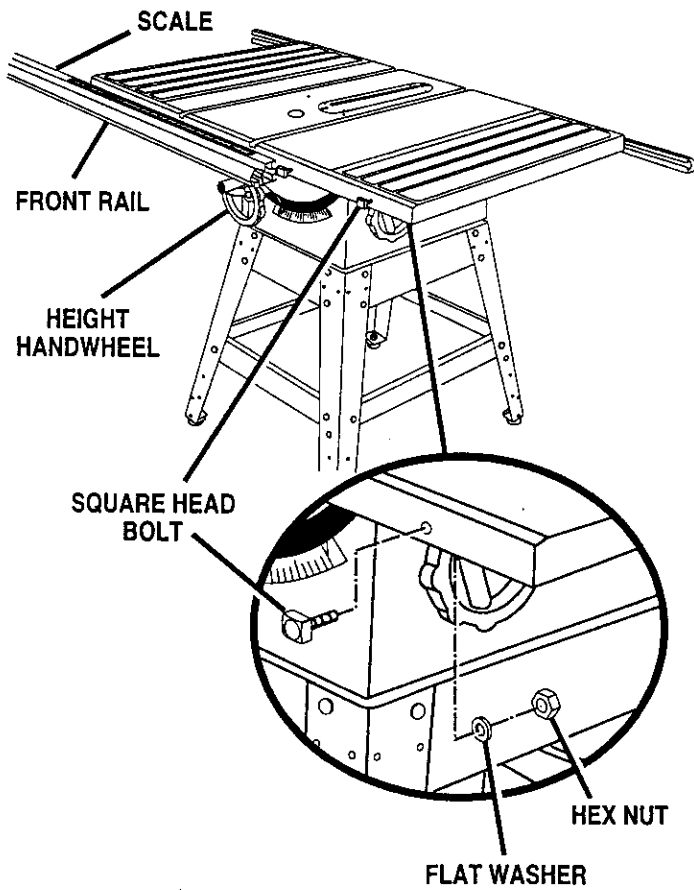

Fig. 6
**Note:** The square head bolts, washers, and hex nuts shown at the bottom of figure 6 should still be on the table saw. If you mistakenly removed them, put them back on the table. Do not tighten.
- Slide the rip fence back and forth. It should move freely with about 1/16 in. clearance below the rip fence. If it doesn't, loosen the nuts holding the front rail and adjust the rail up or down. *See Figure 6.*